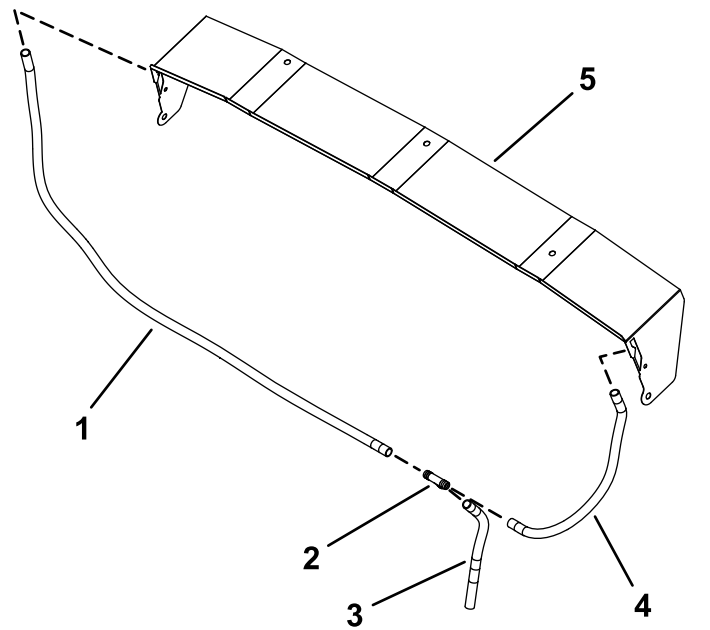

Figure 42
4. Connect the 122 cm (48 inches) clear tube to the 33 cm (13 inches) clear tube and 43 cm (17 inches) clear tube using the tee fitting (Figure 42).